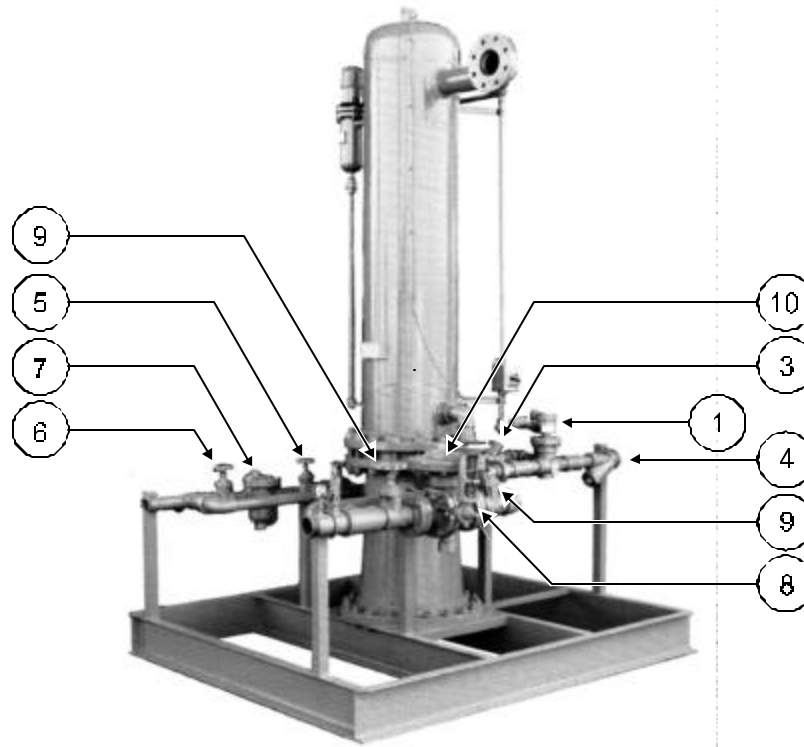

Figure 2-1 - Typical VS Series Vaporizer System
| Figure 2-1 - Typical VS Series Vaporizer | 2 |
2.03 Figure 2-1 illustrates a typical VS Series Vaporizer system and is provided with key number callouts for all the major system elements and controls.